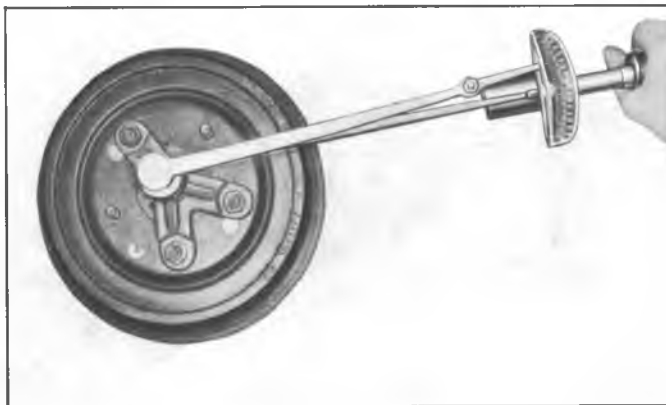

Fig. 15E—Measuring Positraction Rotating Torque
- b. Attach Adapter J-5748 to axle shaft flange and install a 1/2-13 bolt into adapter, shown in Figure 15E.